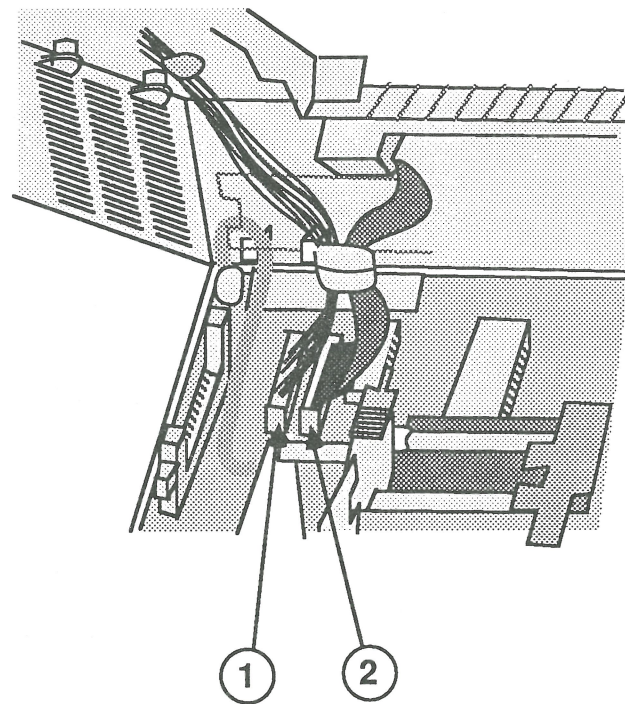

FIGURE 2
- Control Panel PCA cable from connector CN13 (Figure 2, #1)
- Option Card PCA cable from connector CN15 (Figure 2, #2)